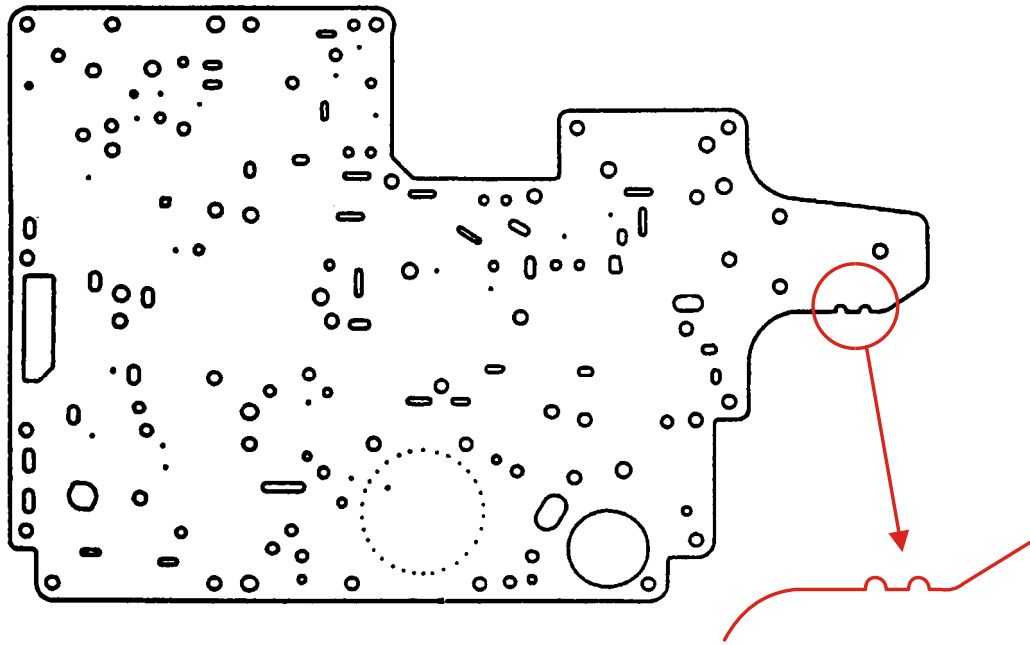
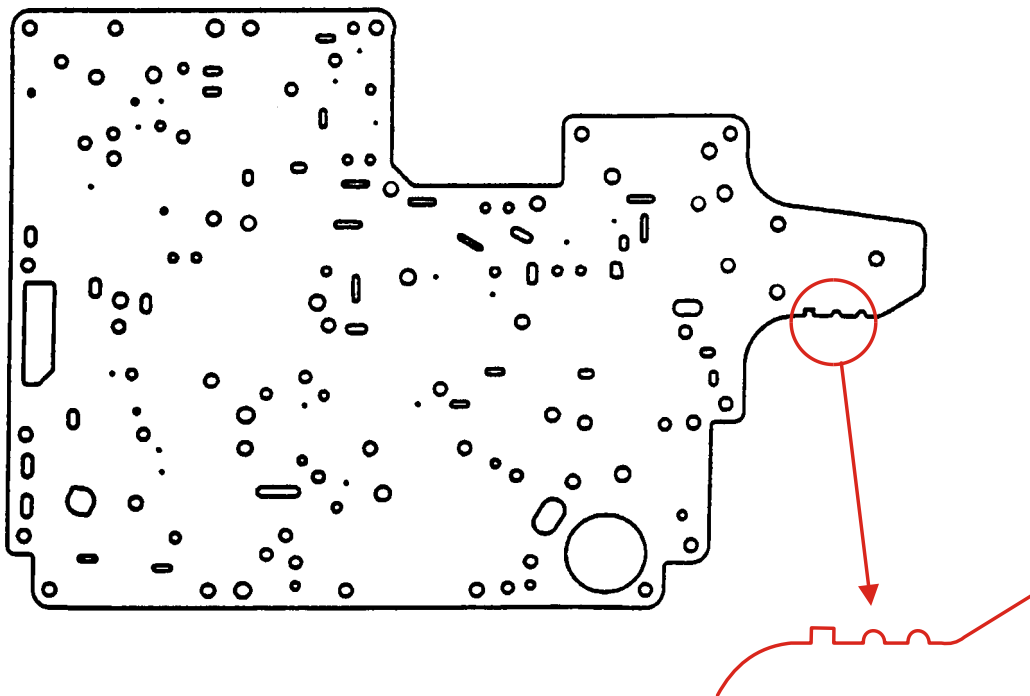

Figure 2
Figure 3
**CORRECTION:** Remove the valve body spacer plate, and inspect for spacer plate distortion in the area shown in Figure 2. Both valve body gaskets must be removed to see the distortion. If the spacer plate is distorted, replace it with OEM part number F4TZ-7A008-A, and re-install using new valve body gaskets. Refer to Figure 3 for the new spacer plate I.D.